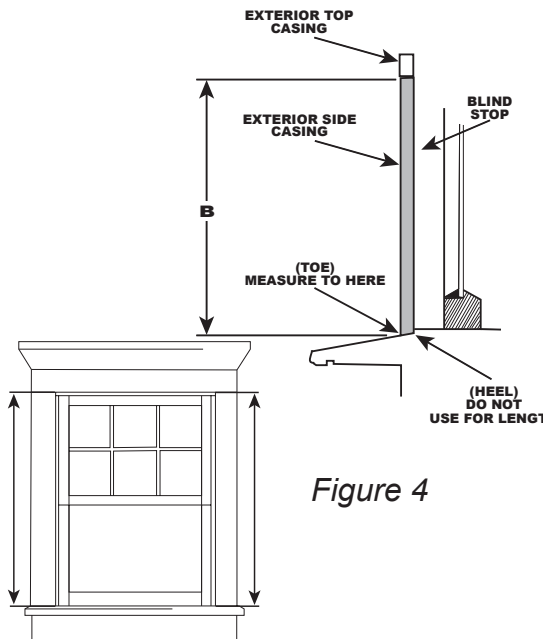

Figure 4
- Step 2. Measure your windows height at two locations (see figure 4) between the bottom of the exterior head casing and the sill, subtract 1/8" from the longest dimension. Record this dimension at **B**(height) on the Measuring Form.
NOTE: Use the **OUTSIDE EDGE** of the Exterior Casing as your measuring point (**DO NOT USE THE BLIND STOP**). Spencerworks All-Season Hanging Windows™ mount flush against the outer edge of the blind stop. The height of the window is equal to the longest dimension of the exterior casings outside edge minus 1/8" (see **B** in figure 4).